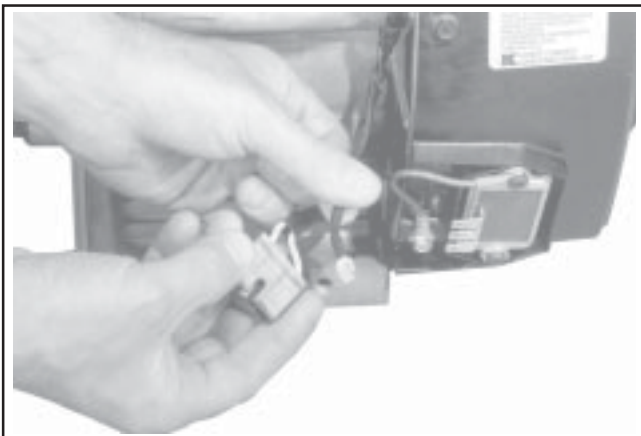

Figure 11-70. Installing B+ Lead into Plug.
2. Install the B+ terminal/lead into the center position of the rectifier-regulator plug and connect the plug to the rectifier-regulator. See Figures 11-70 and 11-71.